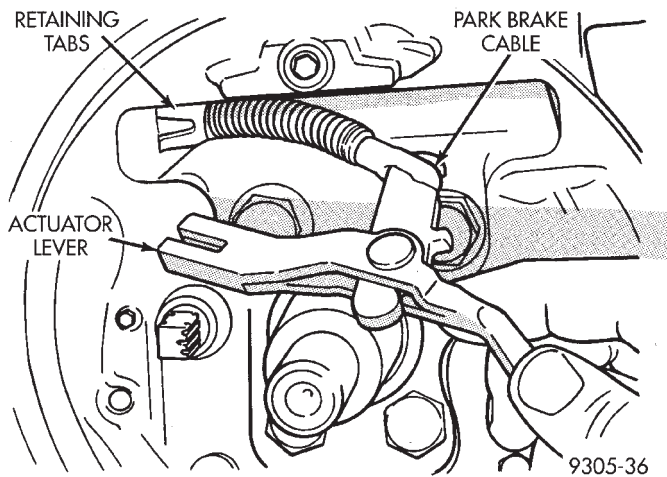
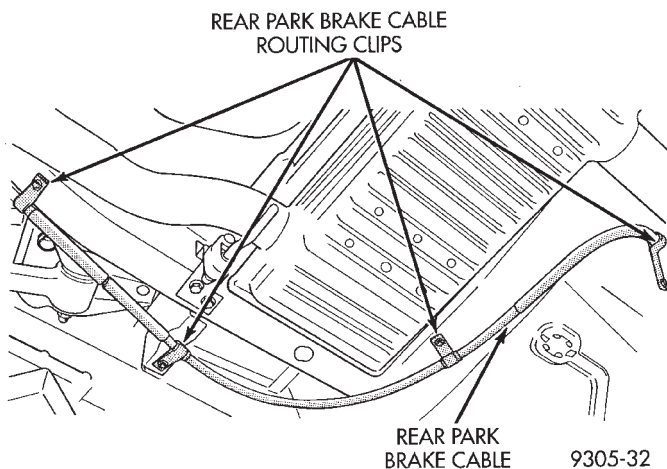

Fig. 8 Park Brake Cable And Actuator Installation.
Fig. 9 Park Brake Cable Routing Clip Locations
(1) Install parking brake cable into rear disc brake adapter cable mounting hole. Be sure the cable retaining tabs are expanded around mounting hole in brake adapter. Connect parking brake cable end to brake shoe assembly actuator lever (Fig. 8).
(2) Install parking brake cable into cable mounting hole in floor pan of vehicle. Be sure that cable retainers are expanded around mounting hole in floor pan.
(3) Install the 4 routing clips attaching rear park brake cable to floor pan and frame of vehicle (Fig. 9).